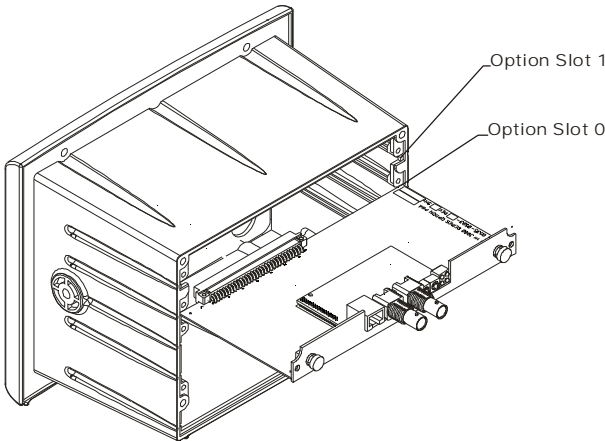

FIG. 48: CONTROLNET/SLIDE INTO OPTION SLOT #0
- Step 2. Slide the ControlNet Option Card into Slot #0. (See Fig. 48)